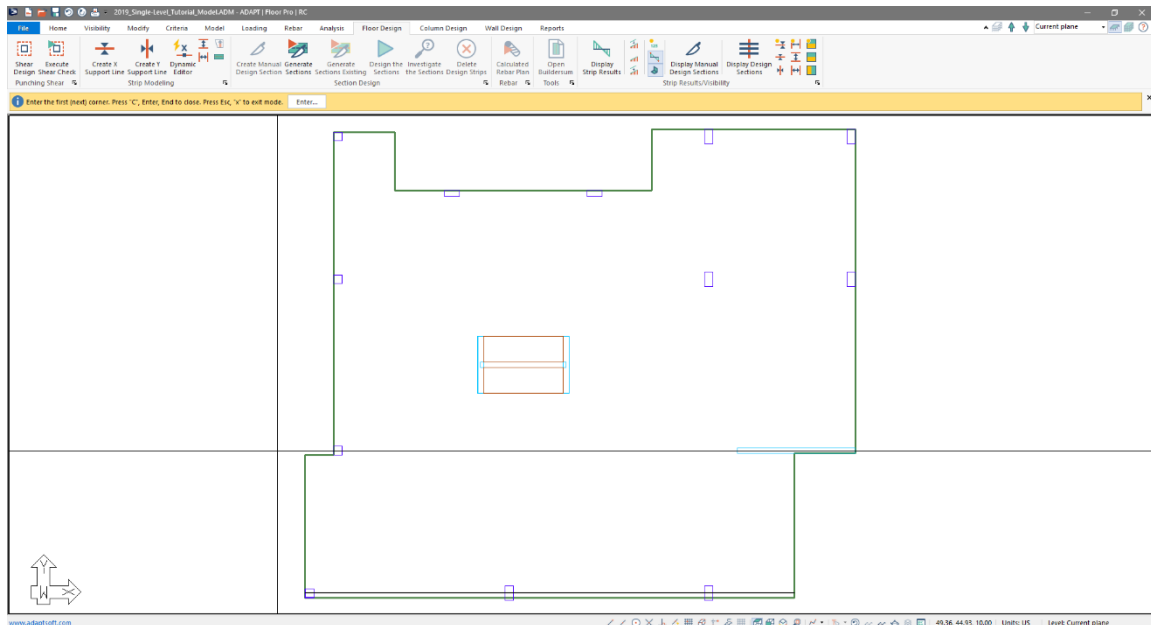

Figure 6-9
- Hover your mouse at the location shown in **FIGURE 6-9**.